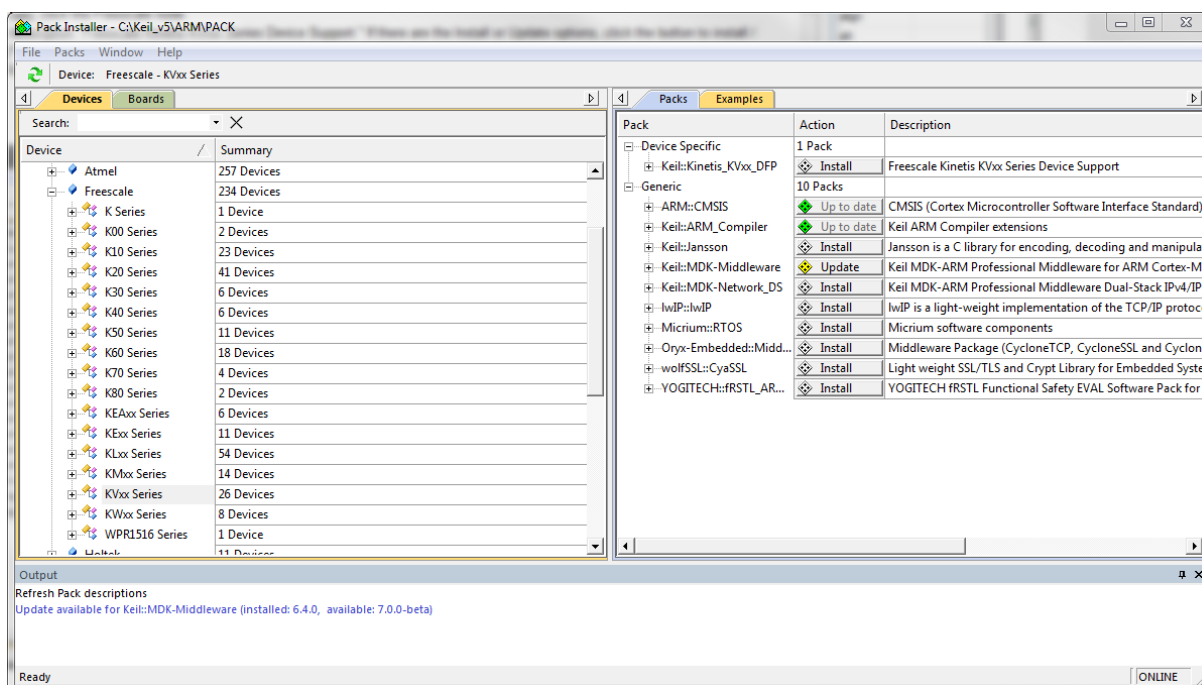

Figure 1-17. Pack Installer
6. Look for a node called "Keil::Kinetis_KVxx_DFP." If there are the Install or Update options, click the button to install/update the package. See Figure 1-17.